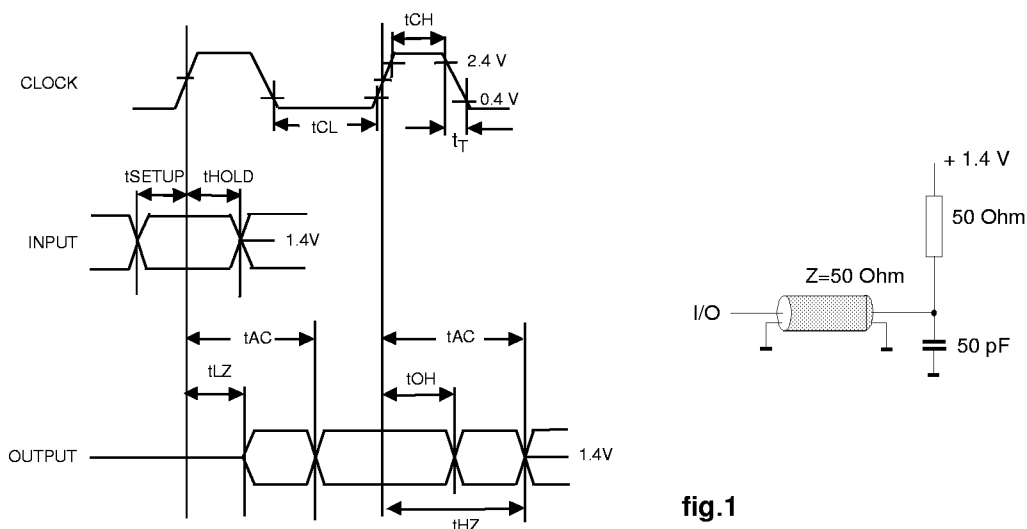

fig.1
2. AC timing tests for LV-TTL versions have $V_{il} = 0.4\text{ V}$ and $V_{ih} = 2.4\text{ V}$ with the timing referenced to the 1.4 V crossover point. The transition time is measured between V_{ih} and V_{il} . All AC measurements assume $t_T=1\text{ ns}$ with the AC output load circuit shown in fig.1..